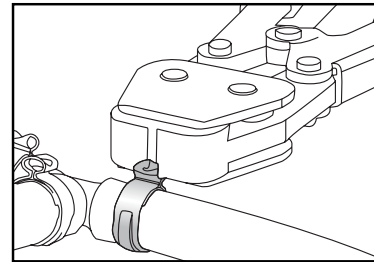

Fig. 17: Correct jaw tip placement
1. Place hand clamp cutter jaw tips on each side of clamp ear or single leg (Fig. 17).